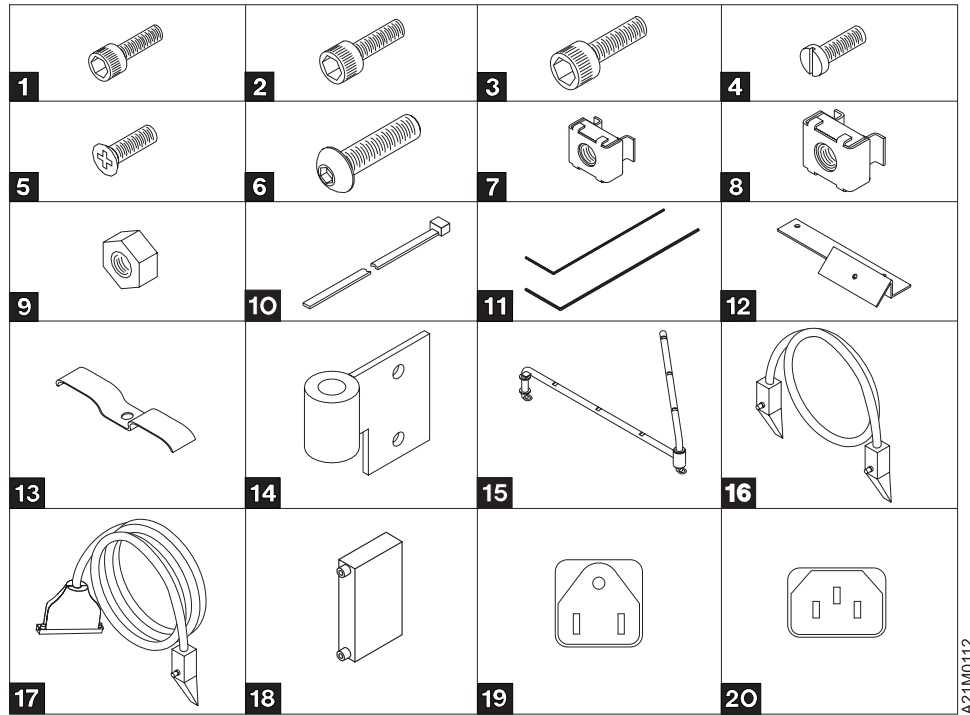
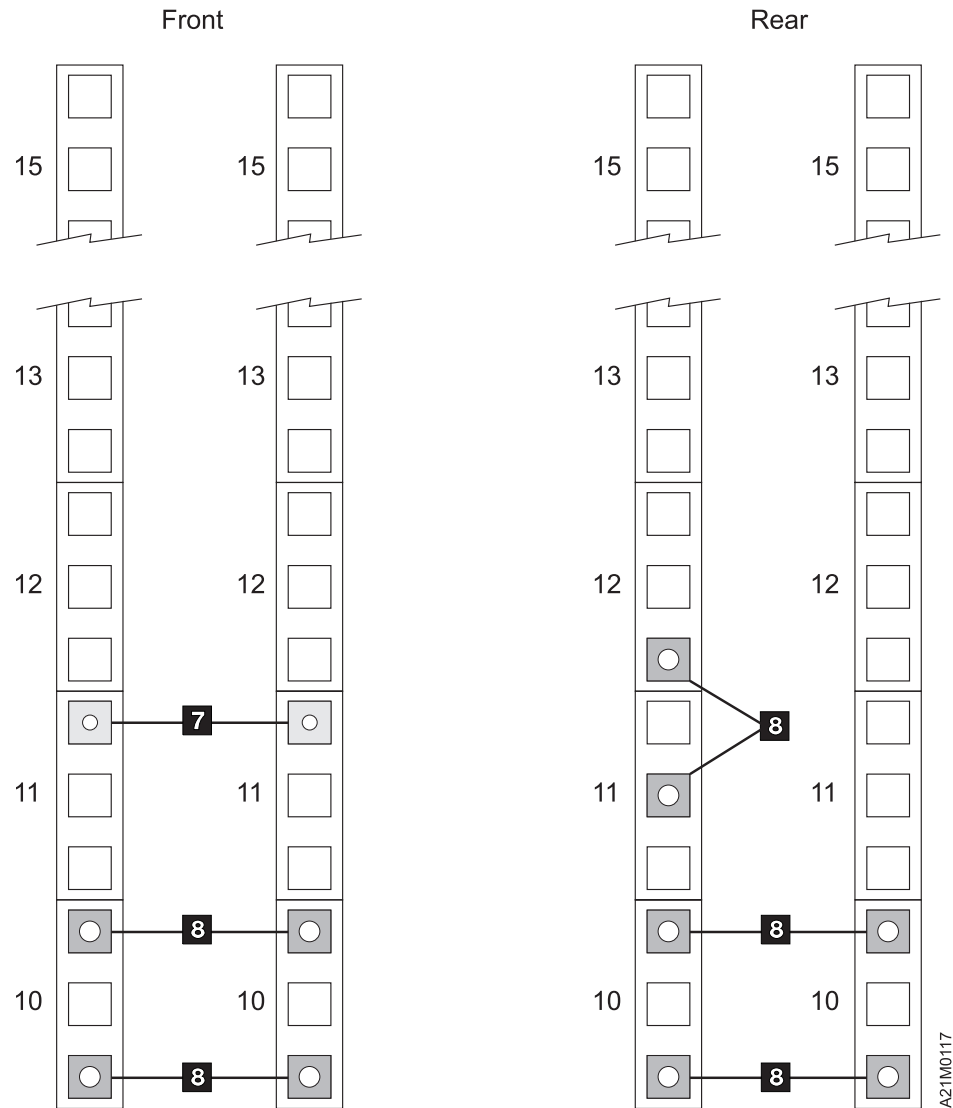

Figure 35. 3570 Drive Models C21 and C22 Rack-Mounted Hardware Ship Group Parts and Tool Diagram
Figure 36. EIA Specification
- ___ Step 1. Use Table 19 on page 78, Figure 35 on page 79, and Table 20 on page 79 to inventory and identify the components in your 3570 shipment. Reference these lists to ensure you have all the necessary parts before you begin your installation, they are helpful references during the actual build phase of your 3570 library. (In the following installation pictures, block numbers **1** through **20** represent items in your hardware ship group. All other block numbers are referenced for description only.)
- a. When you are installing either Model C21 or Model C22 in a rack, you are instructed to locate components by Electronic Industry Association (EIA) rack unit and hole location. An EIA unit is composed of three holes. (See Figure 36 on page 81 for an example.) All hole locations are specified within contiguous EIA rack units, and are square shaped.
- ___ Step 3. Locate the physical area in the rack where the 3570 is to be installed. See Figure 36 on page 81 as your reference for the captured nut locations. The front view shows the frontal left and right EIA strips as viewed from the rack front. The rear view shows the rear right and left EIA strips as viewed from the back of the rack. Items **7** and **8** refer back to the list of items in Figure 35 on page 79.
- ___ Step 1. To prepare for this task, and all successive tasks, refer to the parts shown in Figure 35 on page 79. The tools you will be using to install the 3570 include: a flat blade screwdriver, a number two Phillips screwdriver and an adjustable wrench. Two hex wrenches are included in the machine package.
- ___ Step 4. **Read the following before doing steps 5a, 5b , 5c, and 5d.** These caged nuts must be pressed into the square hole [using a flat blade screw driver]. Once they are seated, they will maintain their position. Next, using the Allen wrench **11** supplied, insert the socket button head screws **6** through the EIA strip and into the caged nuts **8** . Leave the screws loose enough to insert the slide mounting brackets **32** between the screw head and the EIA strip **31** . See Figure 36 on page 81 for referencing captured nut installations.